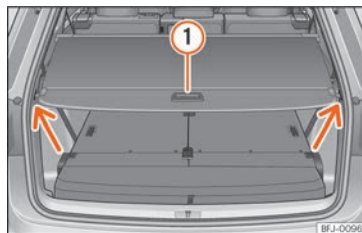

Fig. 119 In the luggage compartment: luggage compartment shelf closed.
- Pull the cover backwards with the handle >>> **Fig. 119** ① and remove it above the